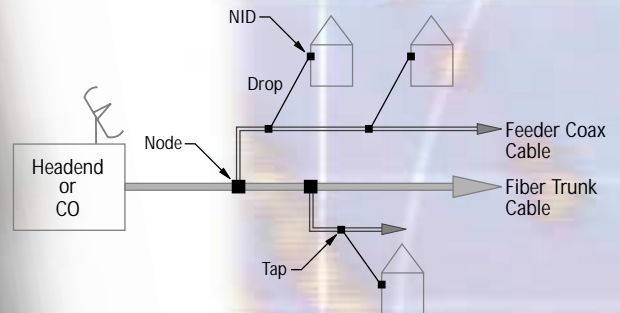

Figure 1. Hybrid fiber / coax (HFC) architecture
HFC architecture usually consists of a fiber trunk line carrying signals in the form of video or telephony from the headend or central office (CO), to feeder cables serving local neighborhoods. Optical nodes on the trunk line convert the signals from light in the fiber optics to radio frequencies (RF) for the copper cables. The feeder cable, a medium sized coaxial cable, provides the signals from the trunk cable to entire neighborhoods. Individual houses subscribing to the cable services have drop lines connected to the feeder cables via taps and network interface devices (NIDs) attached to the outside of their homes for cable telephony and set top boxes for video. Figure 1 below gives a basic layout of how an HFC network should look.